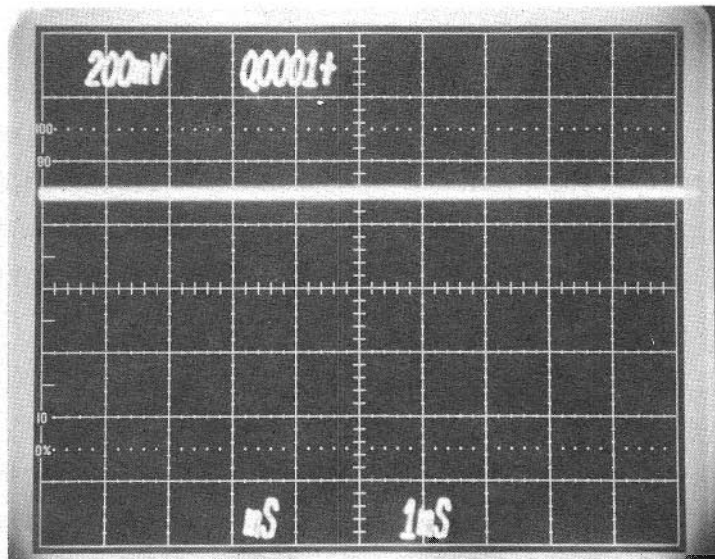

FIGURE 11-2A +3.0V DC LEVEL
8. Adjust R16 to obtain a +2.5V to +3.0V (preferably +3.0V) dc level (ref: FIGURE 11-2A). Some oscillation (noise) may be noticed. Adjust R16 until the oscillation is minimized and the dc level is between +2.5V and +3.0V. (Lowering the dc level reduces the amount of oscillation.)